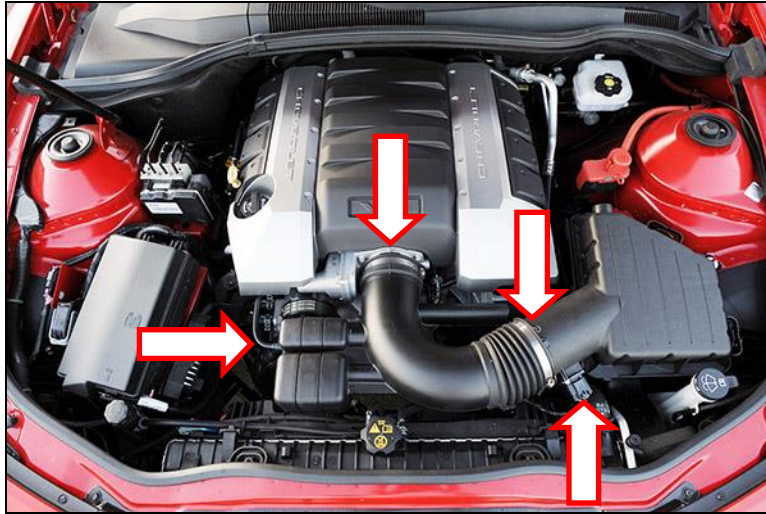

Figure 1
2. Disconnect the MAF sensor and breather hose from the intake tube (**Figure 1**).
3. Loosen the (x2) hose clamps securing the intake tube to the throttle body and OE air box. Remove intake tube (**Figure 1**).